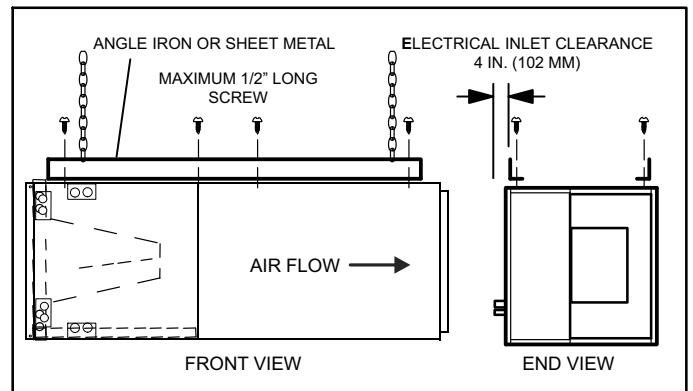

Figure 23. Suspending Horizontal Unit
- If the unit is suspended, the entire length of the cabinet must be supported. If you use a chain or strap, use a piece of angle iron or sheet metal attached to the unit (either above or below) to support the length of the cabinet. Use securing screws no longer than 1/2 inch to avoid damaging the coil or filter. See figure 23. Use sheet metal screws to connect the return and supply air plenums as required.